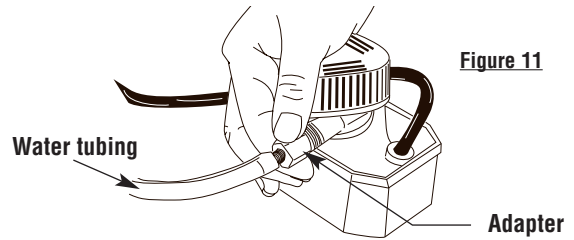

Figure 11
- Connect the clear tubing to the male section of the adapter until it fits securely. See Figure 11.